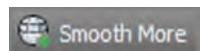

FIGURE 17.32 Smoothing a mesh object twice
5. Click the Smooth More tool in the Mesh panel, select the mesh object, and press Enter. Repeat this procedure to smooth the mesh even more (see Figure 17.32).